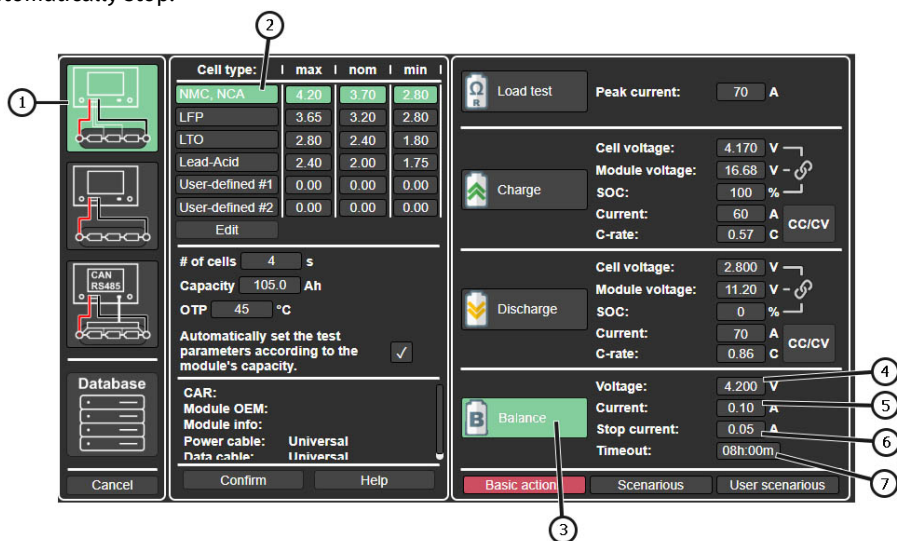

Figure 18
2. Go to the Test Mode Selection and Parameter Setup Menu by pressing the “Test setup” button. Configure the balancing parameters (the items below correspond to positions in Figure 18):